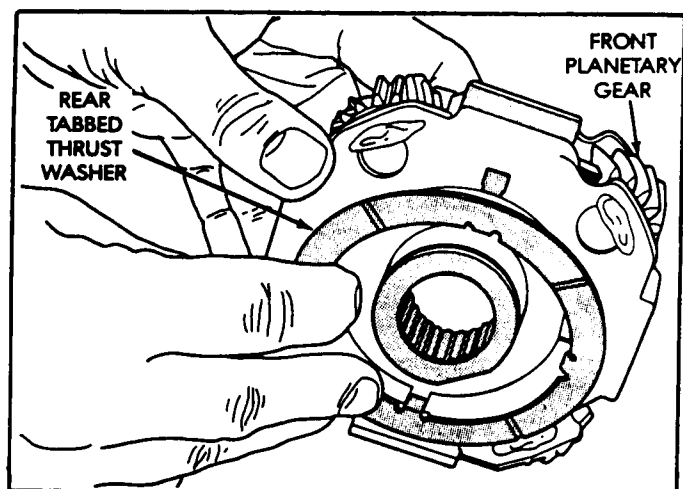

Figure 82
15. Install rear thrust washer onto front planetary and retain with Trans-Jel, as shown in Figure 82.